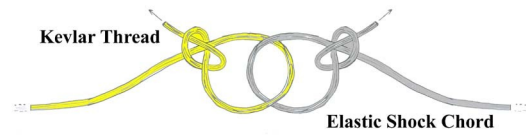

Figure 10
- **Step 20** Loosen the free end of the Kevlar thread and push the thread back through the motor mount, through the body tube, and out the top end. Tie a slip-knot loop in the free end, as close to the end of the thread as possible. Push one end of the elastic shock chord through this loop, as shown, and tie a slip-knot loop in it. See Fig. 10. Pull the two knots tightly together, and coat the knots with thinned glue. Allow to dry.